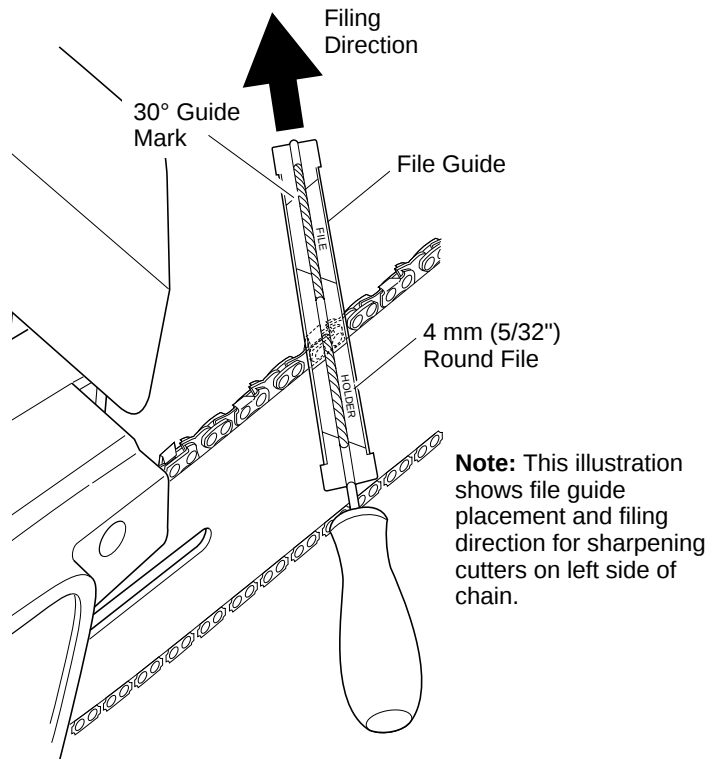

Figure 20 - File and File Guide Placement On Chain
3. Press four millimeter (5/32") round file (attached to file guide) into groove between top plate and depth gauge on chain. File guide should rest on both top plate and depth gauge (see Figures 20 and 21). *Note:* File at midpoint of guide bar.
4. Hold file guide level. Make sure 30° mark on file guide is parallel to center of guide bar (see Figure 20). This will insure that you file cutters at 30° angle.
5. File from inside towards outside of cutter until sharp. Only file in this one direction (see Figure 20). *Note:* Two or three strokes with file should sharpen cutter.